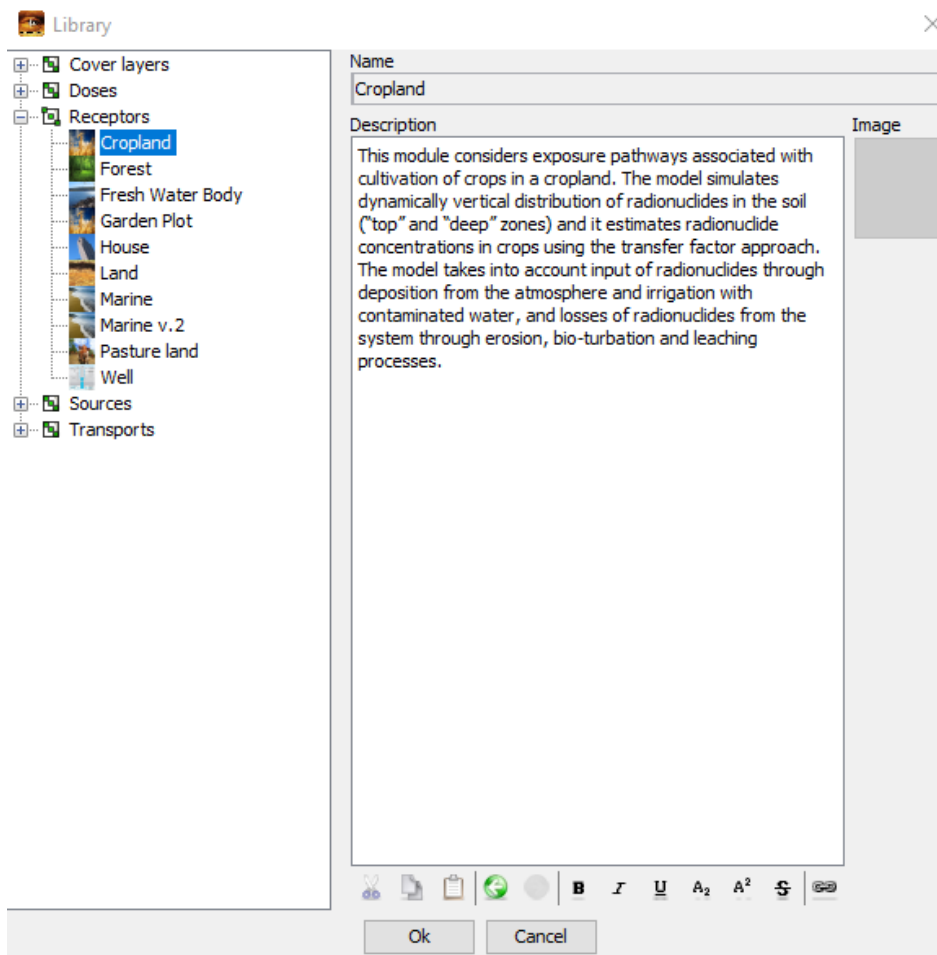

FIG 8. ‘*Library*’ window showing the explanatory text for the ‘*Cropland*’ module from the ‘*Receptors*’ library.
2. In the list of modules, select the ‘*Cropland*’ module from the ‘*Receptors*’ folder. You can read a short description of the selected model in the ‘*Description*’ field of ‘*Library*’ window (FIG 8).